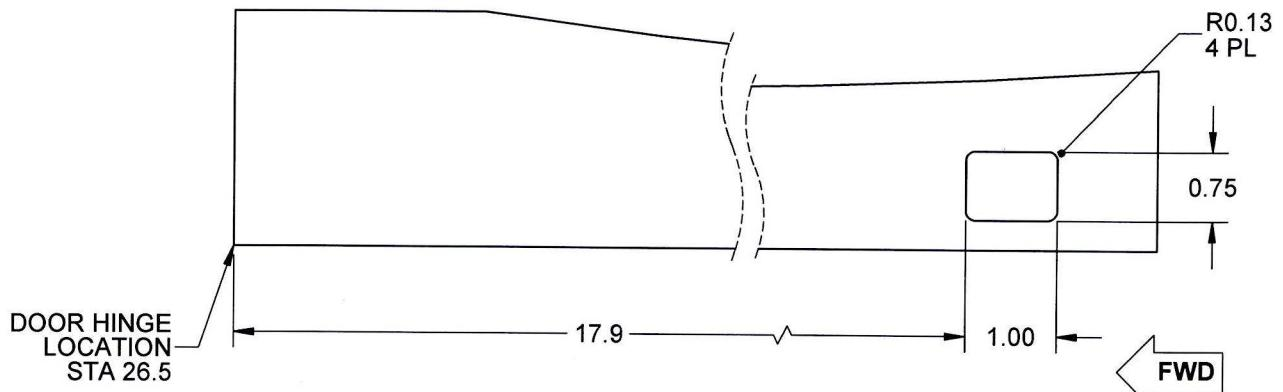

FIGURE 1 - INSIDE DOOR SKIN CUT OUT (REF)
3. Make a 1.00" x 0.75" slot on the inside composite door skin per Figure 1 of this DSI for the MS21073L5 Anchor Nut to pass through and touch up per the Aircraft Maintenance Manual .
4. Drill Qty (4) #28 ($\varnothing 0.141"$) holes through the door skin and D3594-047 Door Doubler.